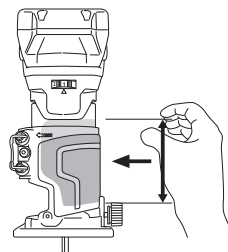

Fig. 29
- (1) Keep the bit separated from the workpieces and hold the body firmly before switch is turned on. (Fig. 29)